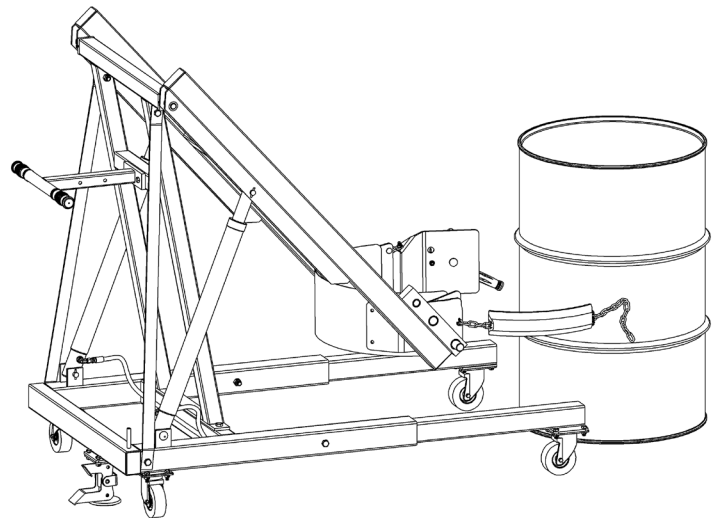

Figure 3.1
The step-down floor lock is located behind the base (figure 3.1). To activate, step down on the floor lock until it locks in the down position. When the floor lock is activated it prevents unwanted free wheeling of the unit. Floor conditions determine the effectiveness of the floor lock. The operator should verify its holding action before depending on it to hold.
- 2.) Using the "LIFT" control as described in "**Machine Description - Controls**" (page 3), position the drum holder assembly with the back band at the middle of the drum. (Figure 3.1). With the ratchet plate swung open and the cinch chain hanging from the chain hook, push the unit until the back band rests firmly against the drum. Some adjustment to the tilt angle of the saddle may be necessary to ensure band fits flush on the drum.